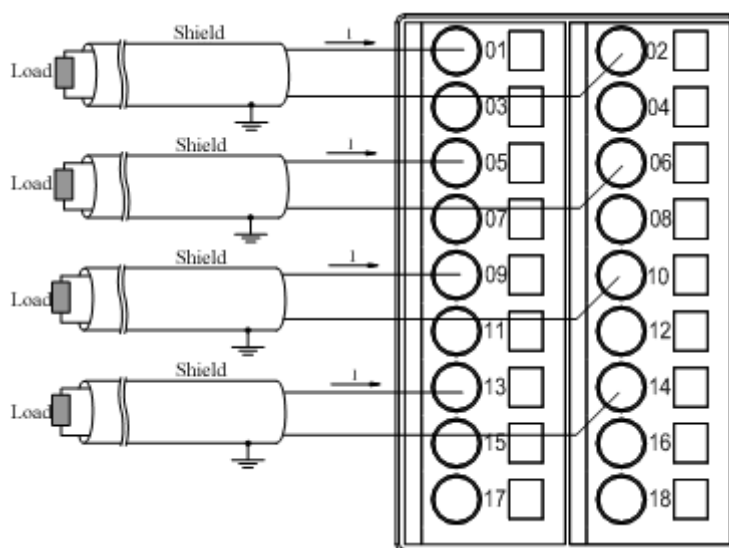

Figure 6.15: Wiring of LK511 Backplane Terminals
- Among its 4 channels of current analog output, only the 4 pairs terminals in Figure 6.15 shall be used in actual wiring while strictly no wiring on other terminals